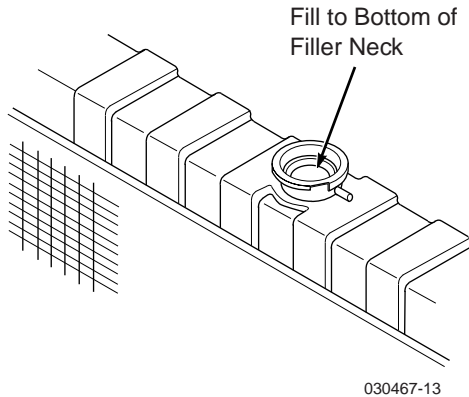

Figure 7-9. Coolant Level in Radiator
2. Visually check the coolant level. The coolant level should be up to the bottom of the filler neck as shown in Figure 7-9. Add a mixture of coolant and soft water as needed.